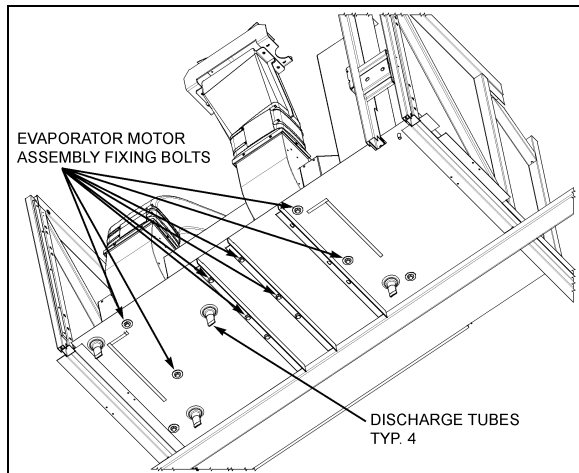

FIGURE 24: EVAPORATOR MOTOR ASSY FIXING BOLTS 22315
7. From under the vehicle, remove the eight bolts retaining the evaporator fan motor support. Remove the complete unit from the evaporator compartment (Fig. 24 & 25).